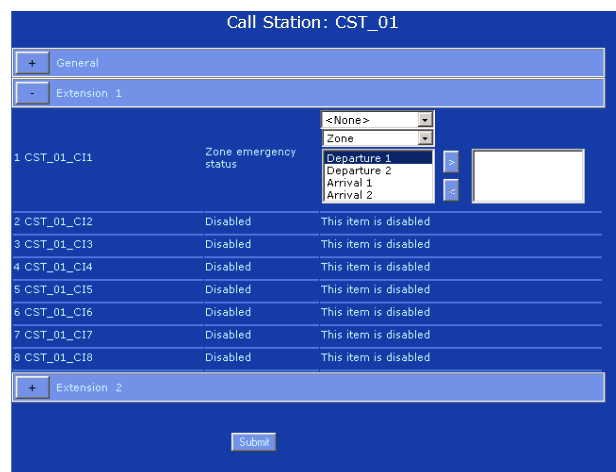

figure 38.30: Zone emergency status, step 3
- 3 Click the *Extension* that contains the key that must be configured. A screen similar to the one in figure 38.30 appears in the main frame of the web interface.